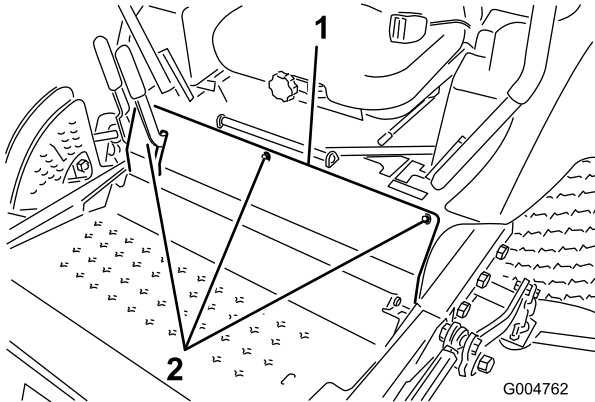

Figure 58
2. Remove the bolts securing the front panel and remove the panel (Figure 58).